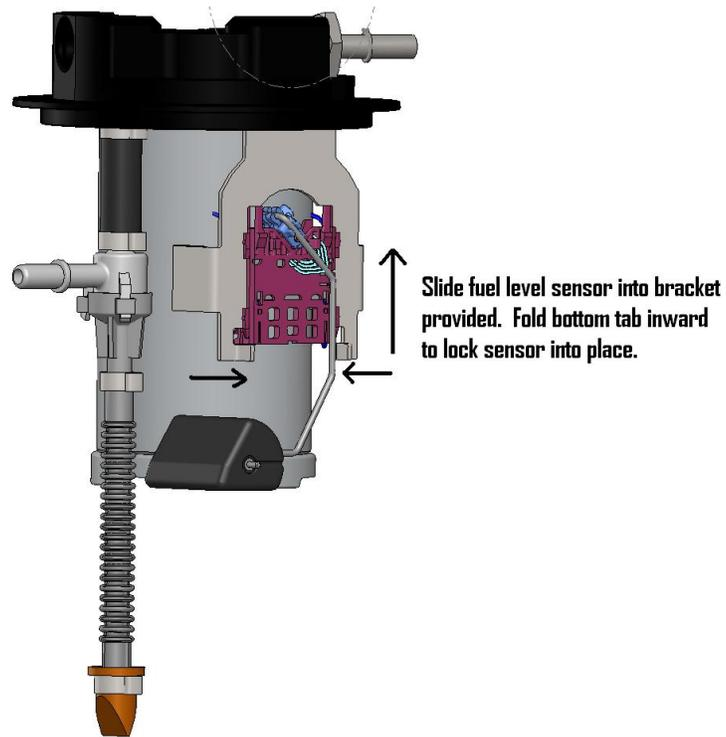

FIGURE 1-5
14. Now take Aeromotive fuel pump assembly and slide the leveling unit into it as illustrated in **FIGURE 1-5**. **NOTE: When twisting the bottom tabs inward, be sure not to twist them into the wires on the bottom of the leveling unit. Move the leveling arm through it's full range of motion to ensure it clears the bracket tabs.**